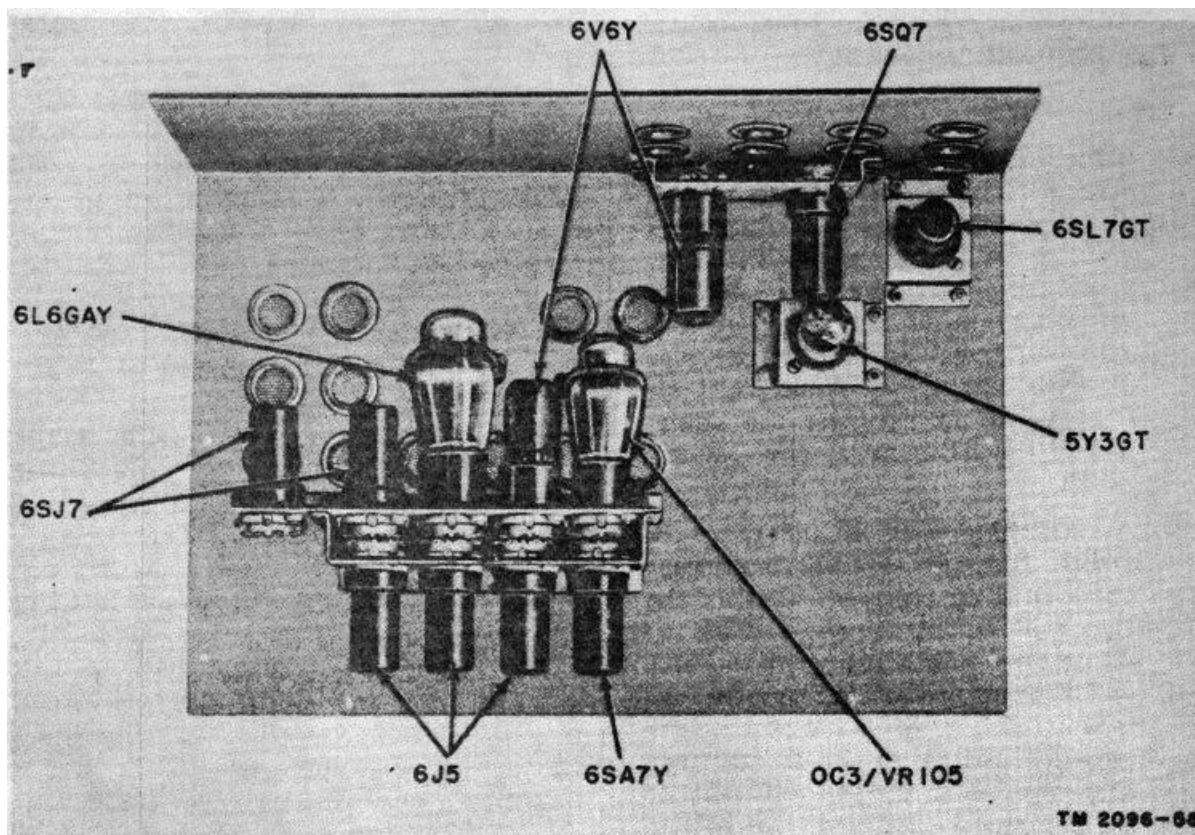

Figure 1-4. Signal Generator SG-15/PCM, spare tubes mounted in top of cover.
d. *Operating Spares.* A spare fuse (fig. 3-1) in an extractor post holder is mounted below the circuit fuse on the front panel of the signal generator. A complete set of spare tubes (fig. 1-4 or 1-5) is mounted on a panel inside the top of the cover.